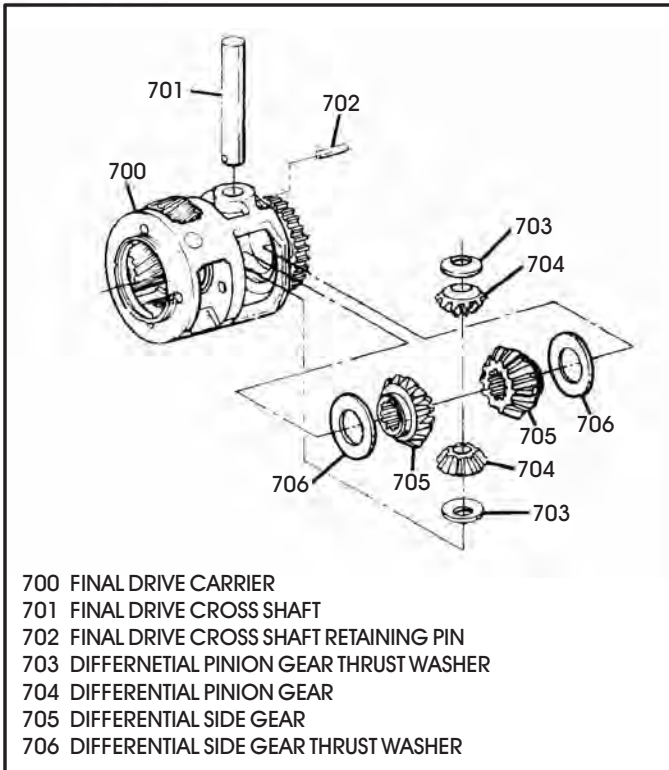

Figure 86
16. Install thrust washers onto the differential side gears and install them into carrier, as shown in Figure 86.
17. Install thrust washers onto differential pinion gears and retain with Trans-Jel®, as shown in Figure 86.
20. Install pinion shaft retaining pin into carrier, as shown in Figure 86.